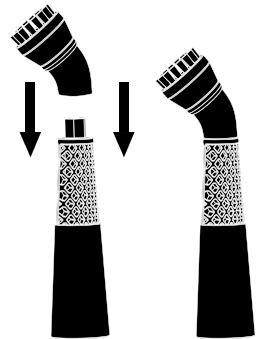

FIGURE 1
1. Firmly press accessory onto tip of Jet Nozzle. Press it on as far as possible to prevent steam leakage (See figure 1).